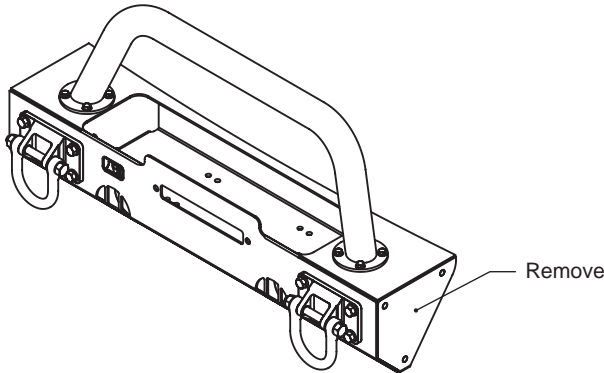

Figure 1a
1. Extended Ends are easier to install with the Center Section of Modular HD Bumper off of the vehicle, but can be installed with the Center Section already installed. If Extended Ends are replacing previously installed Stubby Ends (Figure 1a), remove them so that empty ends remain (Figure 1b).